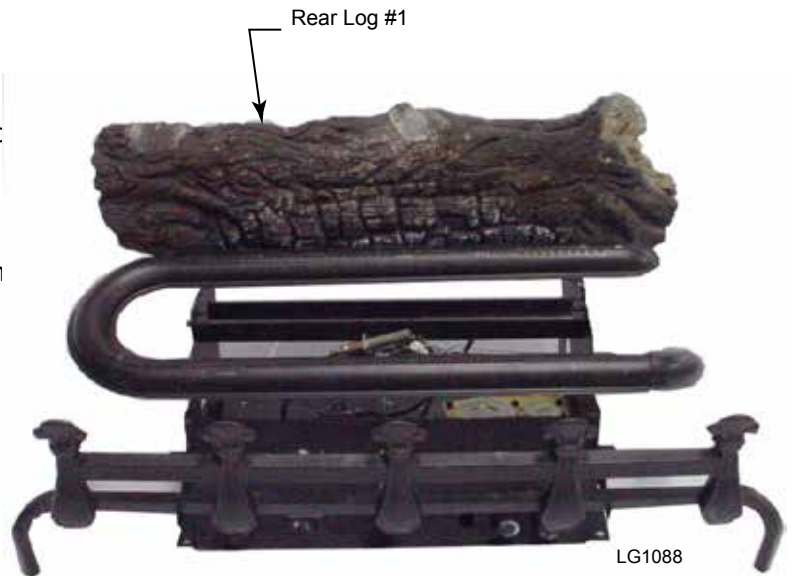

Figure 20
1. Place Rear Log (#1) on rear support. *Figure 20*